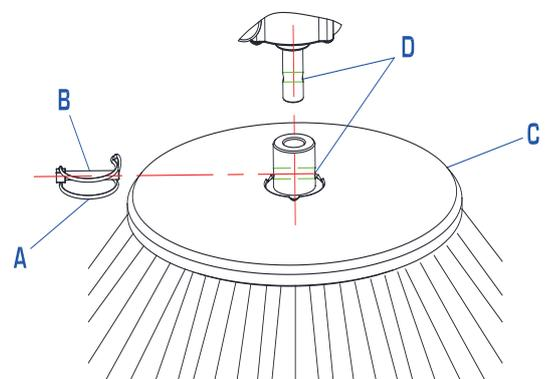

Figure8
- 1) Drive the machine on a level ground and release the pedal (2) and stop the machine.
- 2) Turn the ignition key (71) to "0".
- 3) Release the spring (A, Fig. 8), remove the pin (B) and the brush (C) from the gearmotor shaft.
- 4) Install the new side brush on the gearmotor shaft, insert the pin (B, Fig. 8) in the holes (D, Fig. 8), and engage the spring (A, Fig. 8)